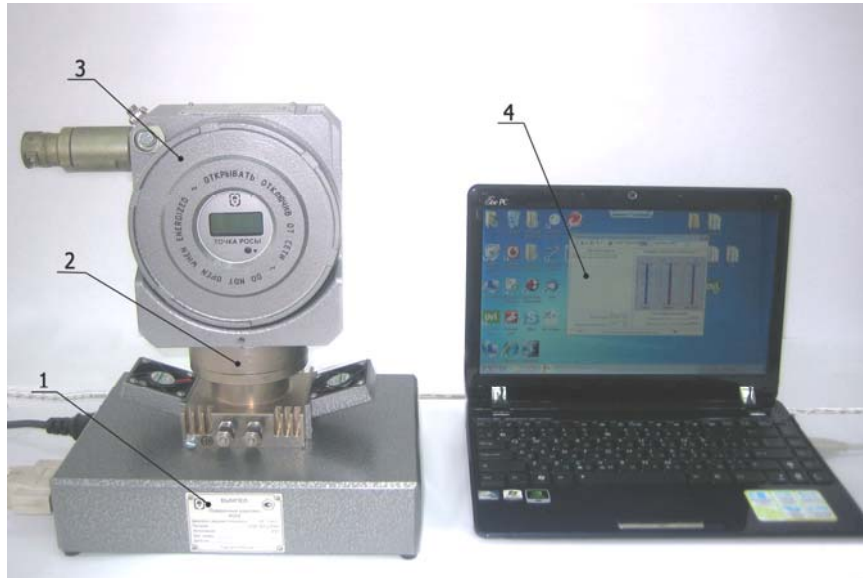

Figure 1 – Calibration system «CONG» together with dew point transducer of series «CONG – Prima»
1.4.2 The calibration system consists of (figure1):
- thermohygrostatic chamber (pos.1);
- computer with a special software (pos.4).
Thermohygrostatic chamber consists of the standard chamber (figure 1, pos. 2), power source and matching electronic block, assembled into one case. At installation of dew point transducer (pos. 3) (without sampling mechanism) onto the standard chamber, the confined space is formed between the chamber and transducer sensor, where the required dew point is achieved by means of forming the hygrothermodynamic equilibrium between the vapor and condensed water phases.